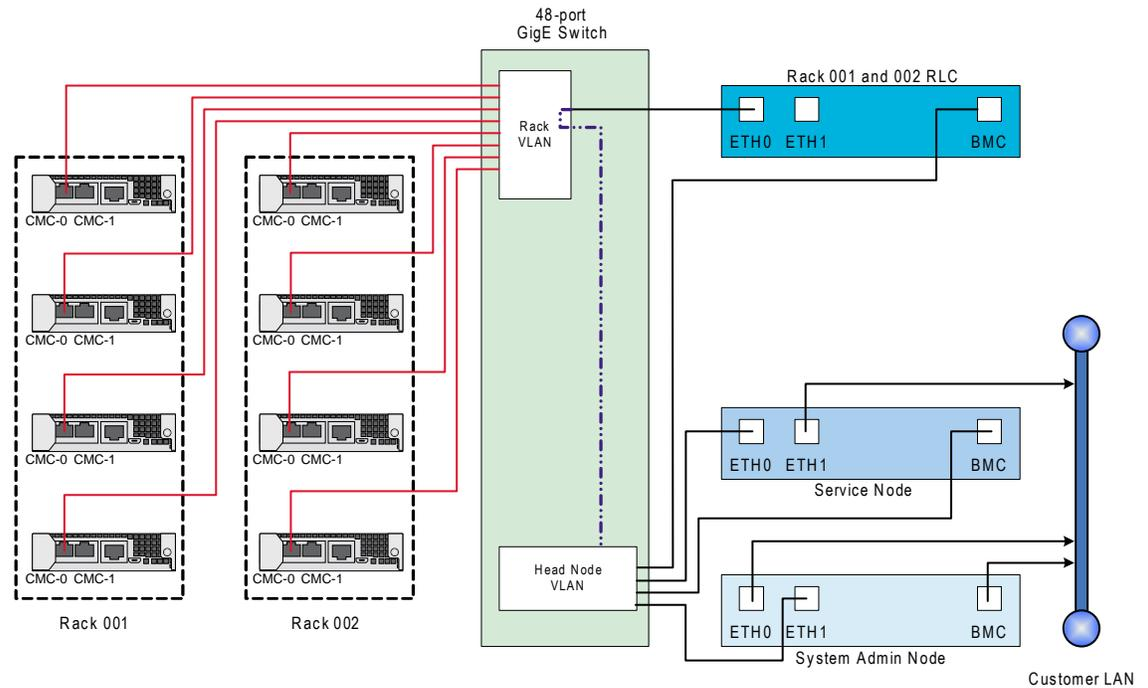

Figure 3-2 Simple CMC LAN (VLAN) Cable Examples
2. Disconnect both power cables, see Figure 3-2 on page 140 for server connection locations.